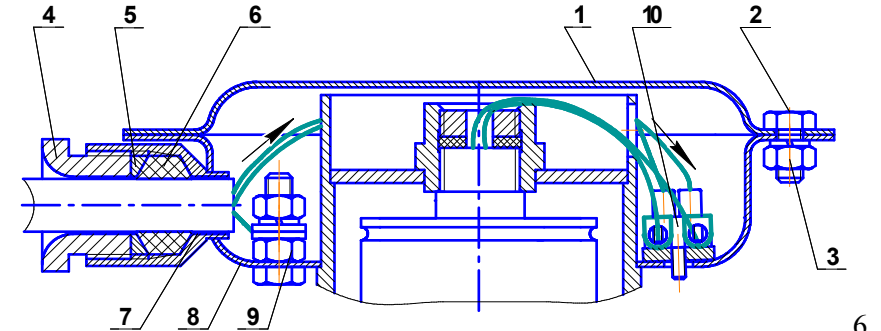

Figure 2
6.2 Assemble the inlet box of the MPP (see Figure 2).